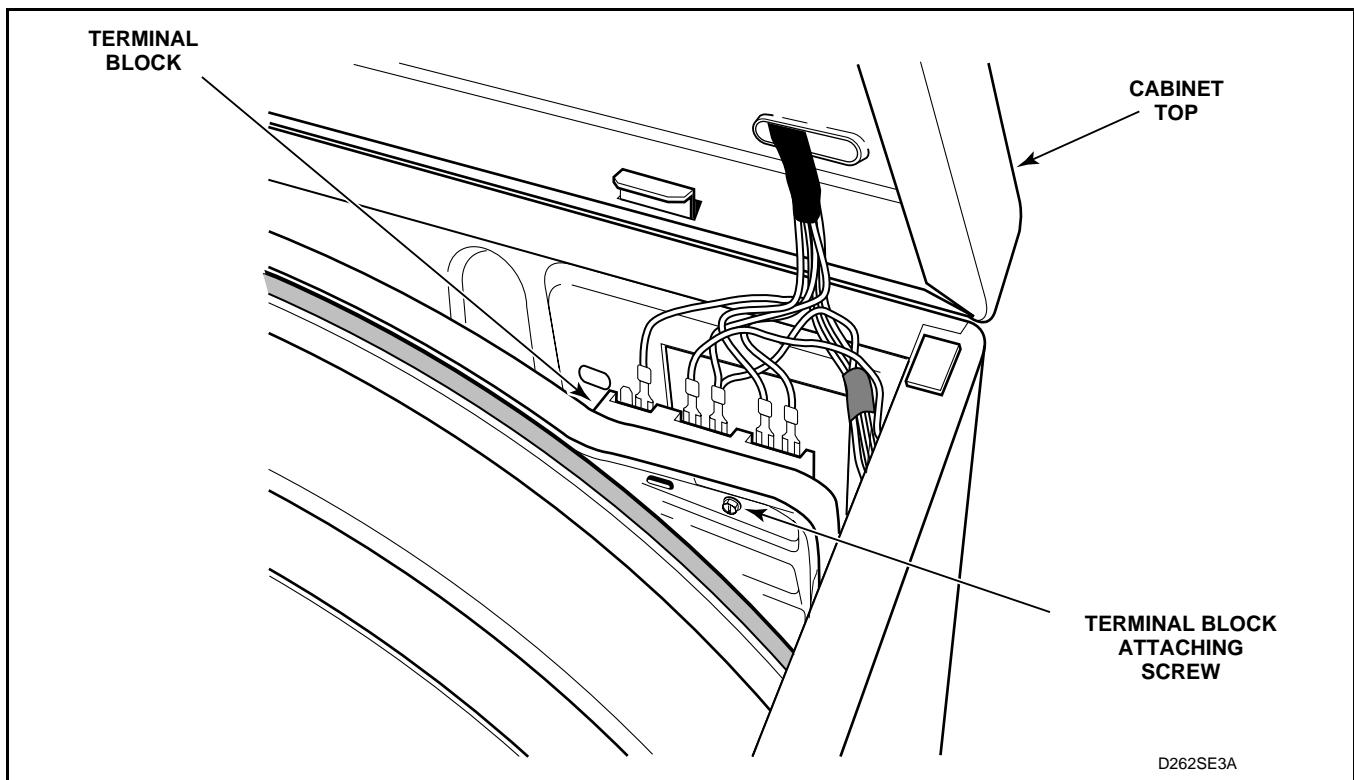

Figure 33
- (3.) Remove screw holding terminal block to rear bulkhead. See *Figure 33*.
- (8.) Remove screw holding terminal block/shield to rear bulkhead. See *Figure 33*.